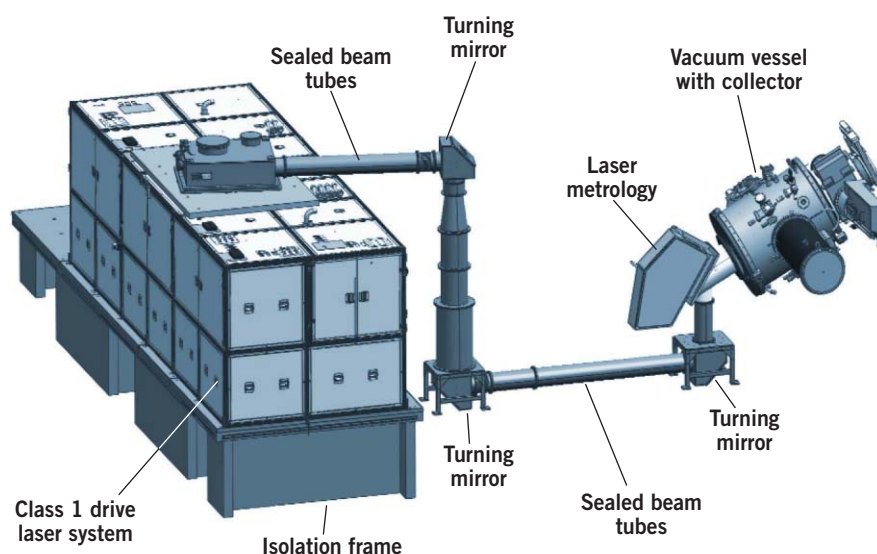

FIGURE 1. Scale drawing of laser produced plasma source.
TSV technology is a key technology for 3D ICs. Vias are etched into the silicon and filled with copper. The back side of the wafer is then thinned, typically using a combination of grinding and CMP, to reveal the end of the copper fill above the wafer surface (**Fig. 1**). This is often referred to as a copper nail. The height of these nails typically varies from 1 micron to 5 micron. A copper nail on one IC and a micro bump on another are used to stack two ICs to develop a 3D device. The height and co-planarity of the nails are critical parameters that must be correct to ensure the connectivity and, therefore, require inspection and measurement (**Fig. 2**).
FIGURE 1. TSV nails are formed by filling vias, usually with copper, etched into the wafer. The wafer is then flipped and mounted to a carrier wafer. A combination of processes is used to remove material from the wafer surface, leaving the ends of the copper fill protruding above the surface. These TSV nails will be matched to corresponding solder bumps on a stacked wafer or die to provide electrical connections. (Courtesy of Sematech)
The LPP source architecture is shown in **Fig. 1**. The three major subsystems of the source are the drive laser, the beam transport system (BTS) and the source vessel. The drive laser is a CO₂ laser with multiple stages of amplification to reach the required power level of up to 30 kW. It is operated in pulsed mode at 50 kHz with radio-frequency (RF) pumping from generators (not shown) operating at 13.56 MHz. The laser is typically installed in the sub-fab along with its RF generators. The laser beam is expanded as it leaves the drive laser to lower the energy density on